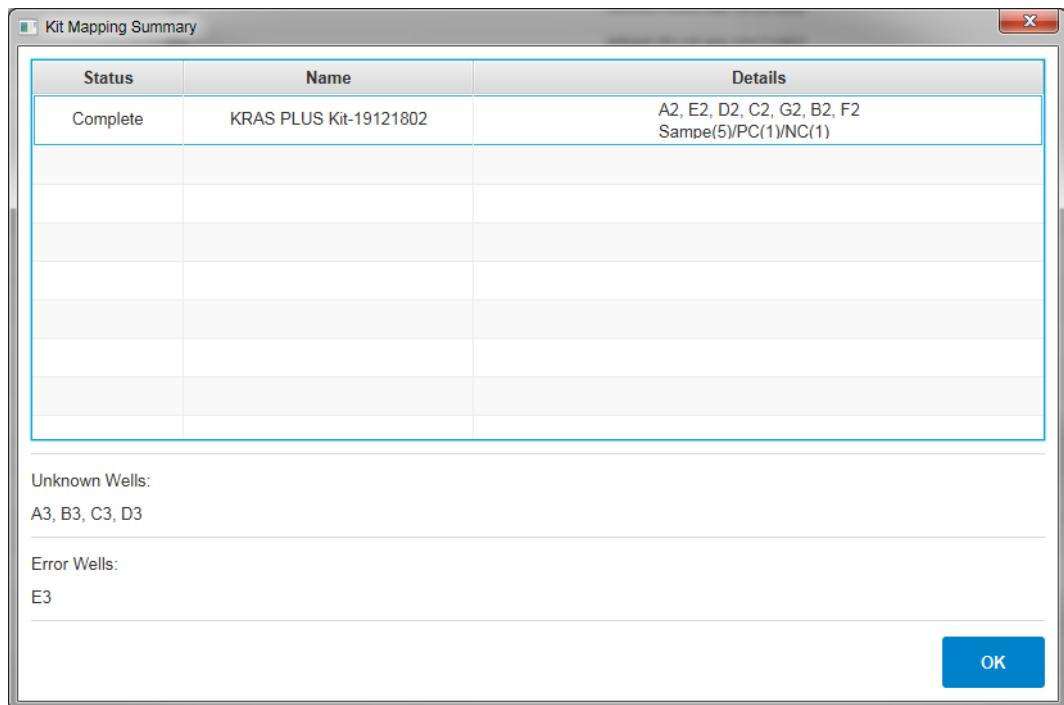

Fig. 28. Kit Mapping Summary
Step 3. A pop-up window, “Kit Mapping Summary”, with the summary of kit mapping results, including kit name(s) and lot number(s) of the assay(s) will appear (Fig. 28). The table shows all recognized kits (assay-lot specific ENC imported) with their corresponding wells. The table also shows “Unknown Wells” for all wells that could not be matched to an ENC file (see “Note” below) or “Error Wells” (π Code MicroDisc not found). If all wells associated to a specific assay-lot analyzed on the 96-well plate are shown as “Unknown Wells”, the assay-lot-specific ENC file is missing. The ENC file can be